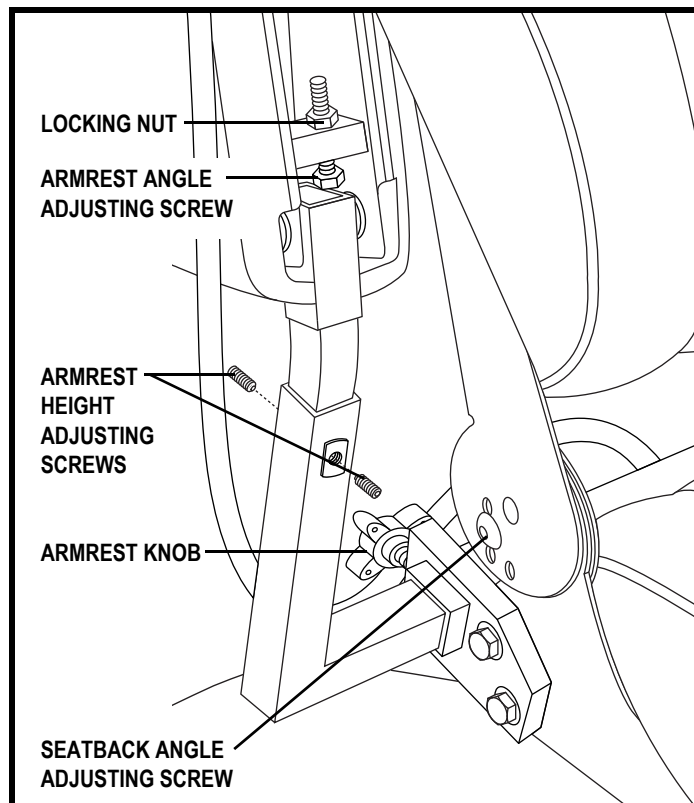

Figure 18. Seatback Angle Adjustment
1. Remove the adjusting screws from each seat hinge. **See figure 18.**
1. Locate the two armrest knobs on each side of the armrest receiver bracket. **See figure 18.**
1. Loosen the two setscrews located on the armrest receiver. **See figure 18.**
1. Lift the armrest straight up so that it is perpendicular to the floor. **See figure 18.**